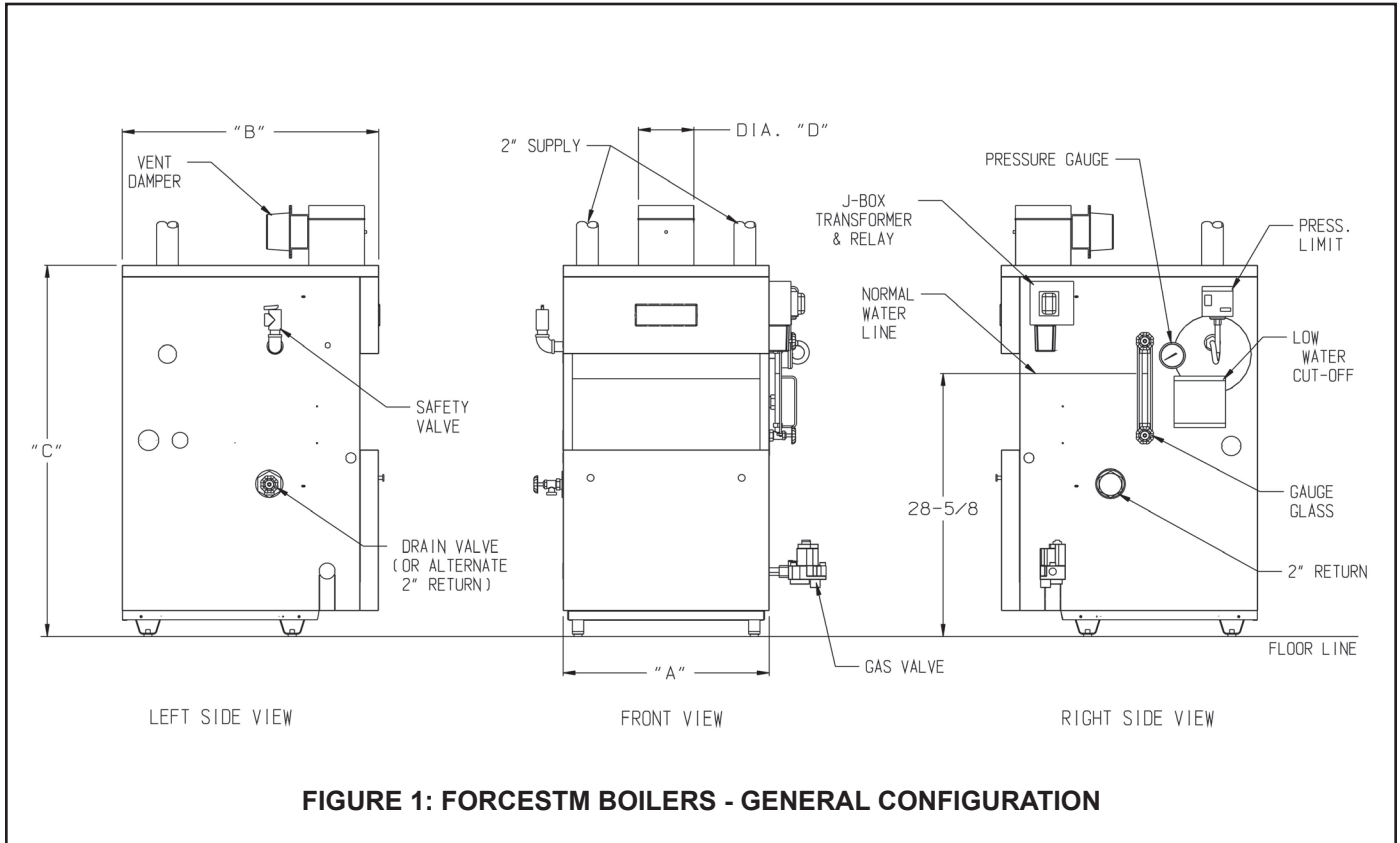

FIGURE 1: FORCESTM BOILERS - GENERAL CONFIGURATION
- a) Open vent damper carton and remove installation instructions. Read the instructions thoroughly before proceeding. Verify that vent damper is same size as draft diverter outlet. See Figure 1. Unpack vent damper carefully. **Do not force closed damper blade.** Forcing vent damper closed may result in damaged gear train and void warranty.
- 2) Install safety valve (spindle must be in vertical position) into tapping on boiler left side (see Figure 1) using the 3/4" NPT nipple and elbow supplied.